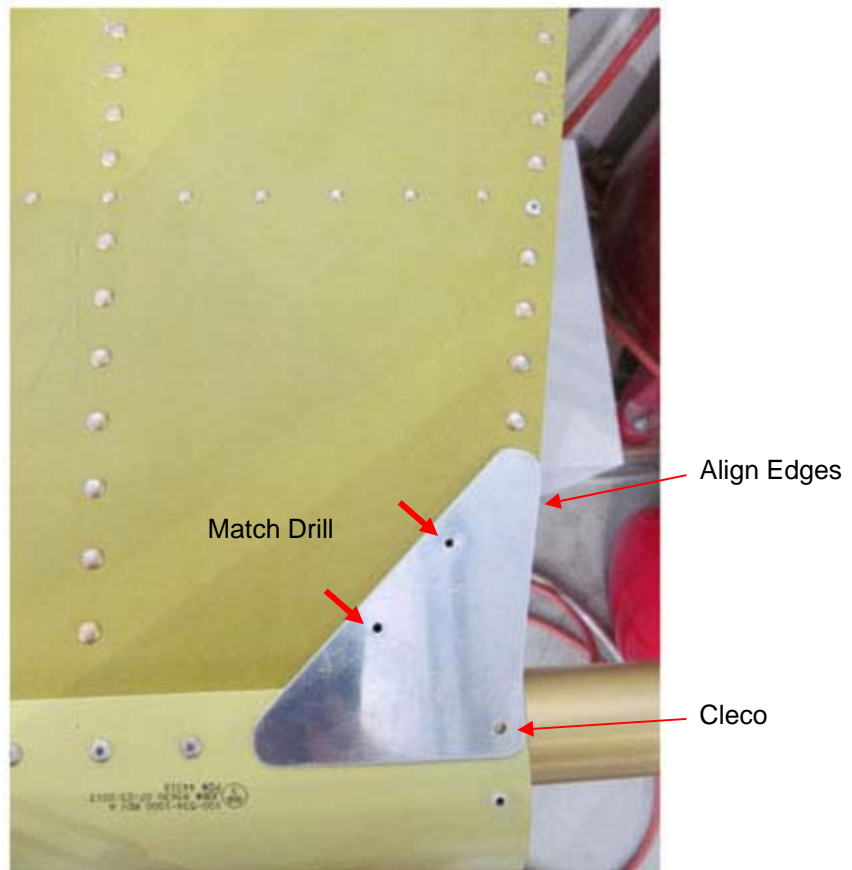

Figure 5-8: Fit Doubler to Corner and Match Drill
5. On top of the elevator skin, line up the doubler and the filler in the corner, with the filler beneath the doubler, and cleco in place (**Figure 5-8**).